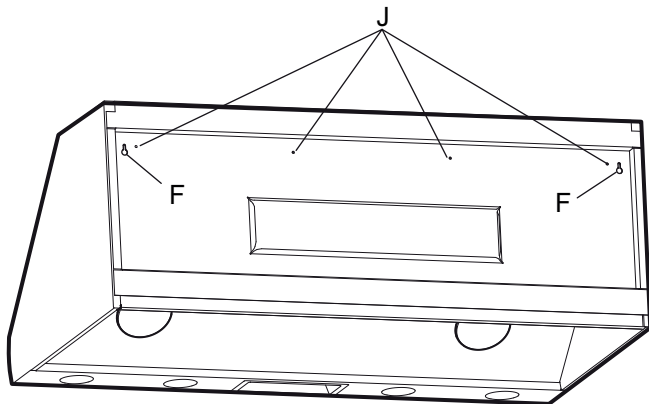

Figure 15: Location of Screw Keyholes
14. Using two people to lift, rest the hood on the screws in the wood bracket. Use the keyholes labeled "F" in *Figure 15*. Make sure the wood bracket fits into the recess on the back of the hood.
16. From inside the hood, drive 5/8" (16 mm) screws through holes in hood into wooden bracket. See holes labeled "J" in *Figure 15*.